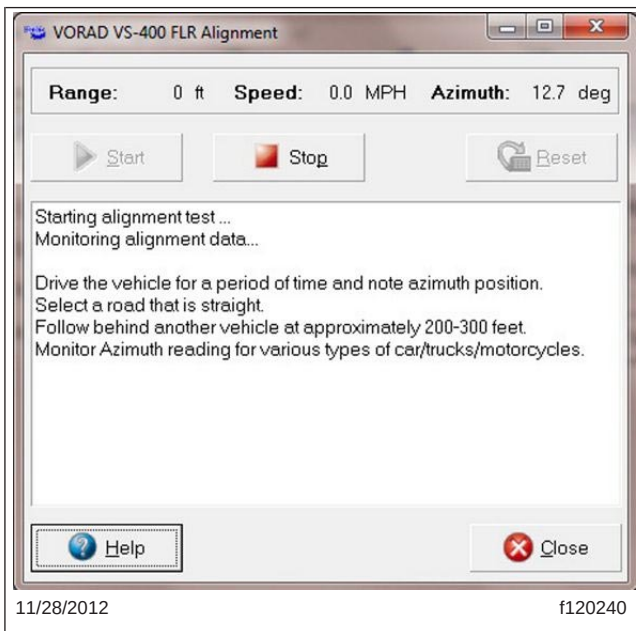

Fig. 9, Starting Screen for the Alignment Test
9. Click "Start" to begin the horizontal alignment calibration. See Fig. 9.